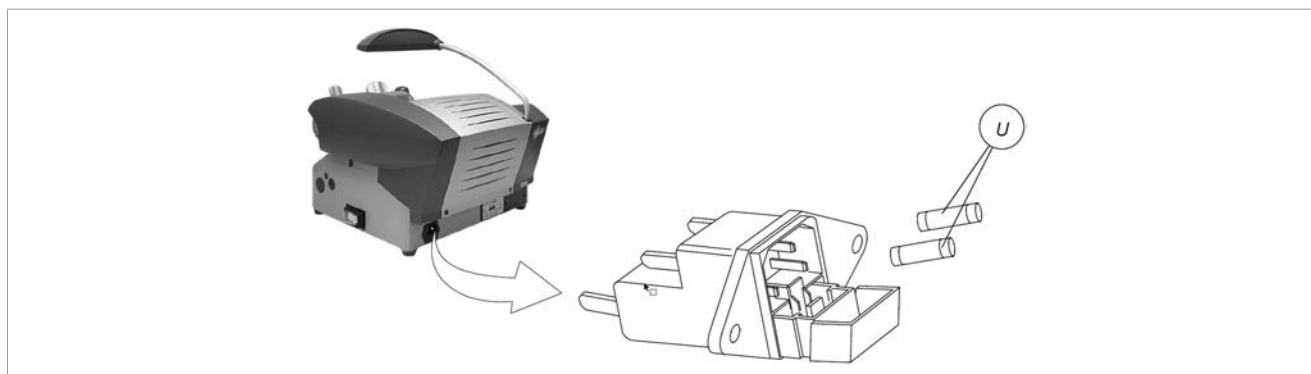

Fig. 30
- 3) Remove the fuses box placed below the key-cutting machine socket (Fig. 30).
- 4) Replace the fuses (U).